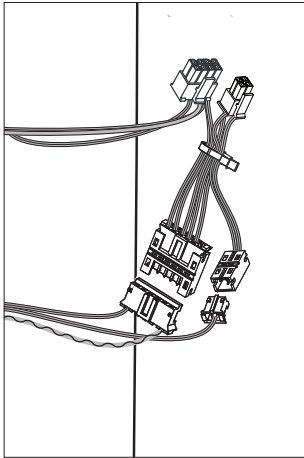

Figure 1
- Connect 6-pin connector from lock body to 6-pin connector on reader harness (Figures 1 and 2).
- Connect 2-pin connector from lock body to 2-pin connector on reader harness (Figures 1 and 2).